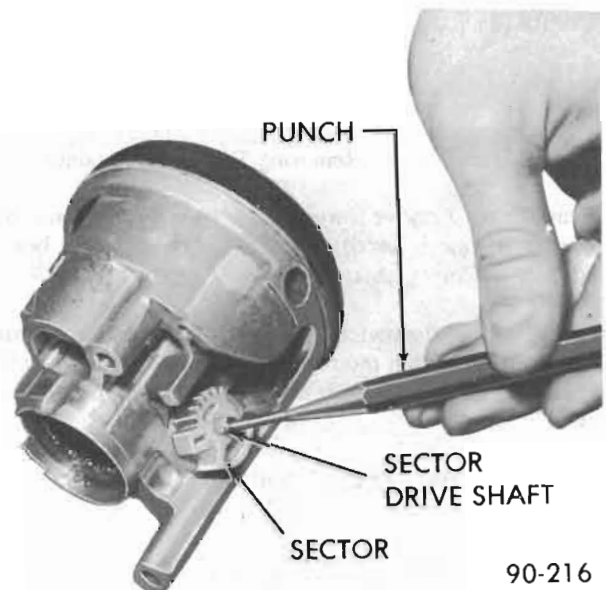

Figure 90-121 - Removing Sector Drive Shaft.
3. Remove snap ring from sector drive shaft. With small punch, lightly tap drive shaft from sector. Remove drive shaft, washer, sector and bolt. Remove rack and rack spring. See Figure 90-121.